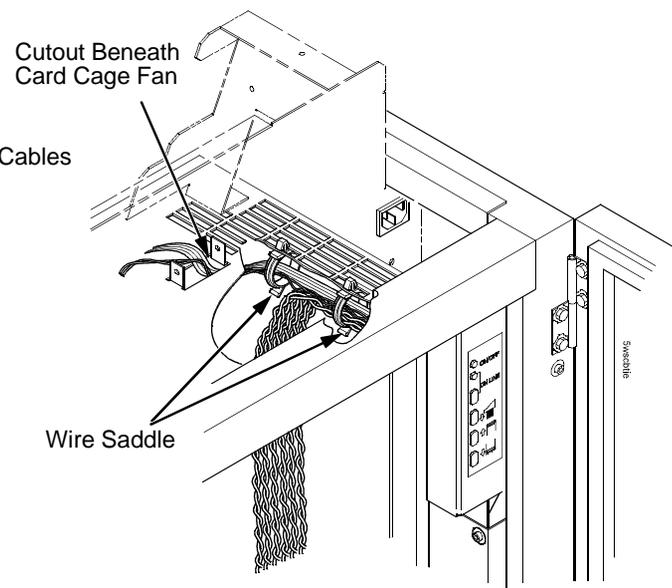

Figure 96. Bundle and Route the Stacker Cables Beneath the Card Cage and Behind the Operator Panel
37. Bundle the stacker operator panel cables in the wire saddles located under the card cage. Tie wrap the cables so they do not catch in the stacker mechanism as it moves up and down. Route the stacker rail and frame cables so they move without snagging as the elevator assembly moves up and down. (Figure 96.)